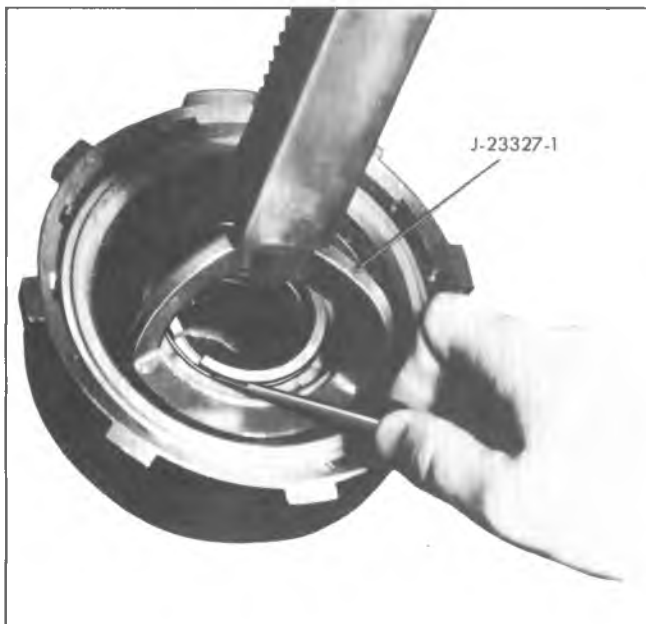

Fig. 65N--Compressing Direct Clutch Spring Seat
3. Using compressor tool J-23327, remove direct clutch piston return spring seat retaining ring, spring seat and seventeen (17) clutch return coil springs (fig. 65N).